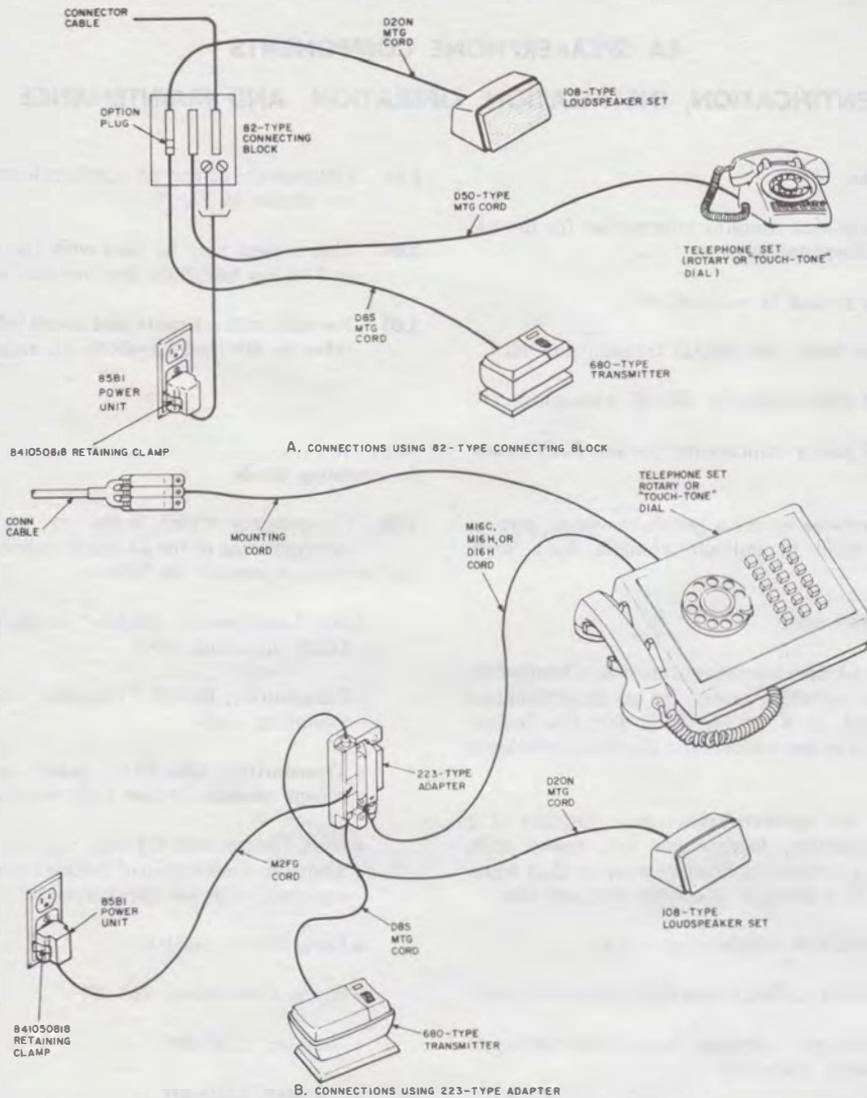

Fig. 1—Typical Arrangements of 4A Speakerphone System
2.23 A retaining clamp (841050818) (Fig. 1 and 2) will be shipped with the 85B1 power unit.
**3.04** A retaining clamp (841050818) (Fig. 1 and 2) should be mounted to the ac receptacle to hold the power unit securely and to prevent accidental loss of power.